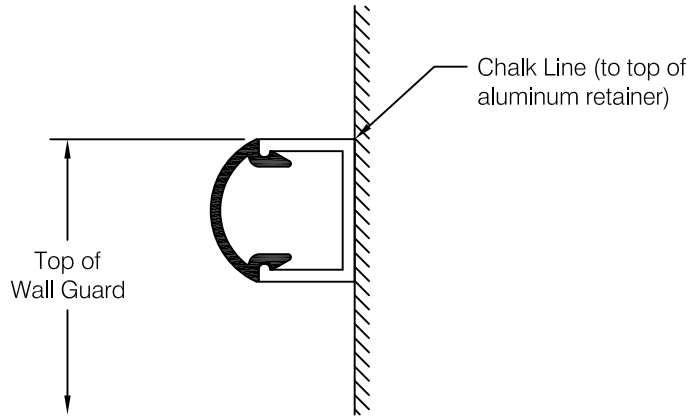

fig 1
- Step 1:** Determine top of wall guard and snap a chalk line to locate top of aluminum retainer, see **fig 1**.